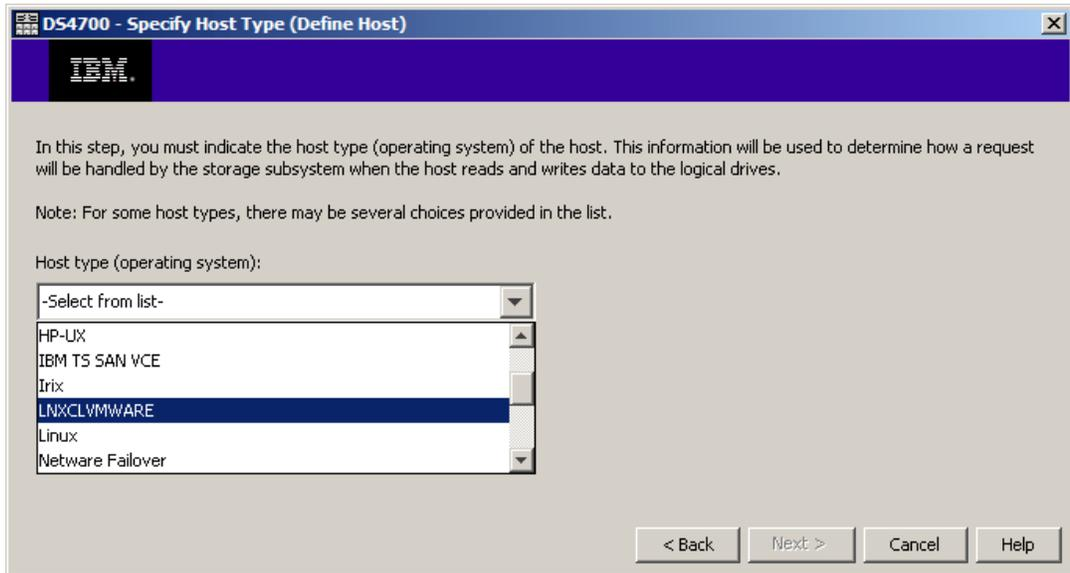

Figure 10-56 Specify Host Type
10. After defining the HBA alias, click **Next** to continue the wizard to open the Specify Host Type window. In this window, select **LNXCVMWARE** as the host type, as shown in Figure 10-56. You must select this host type because this host type will automatically disable automatic volume transfer. We do not use automatic volume transfer because failover is handled by RDAC at the OS level.